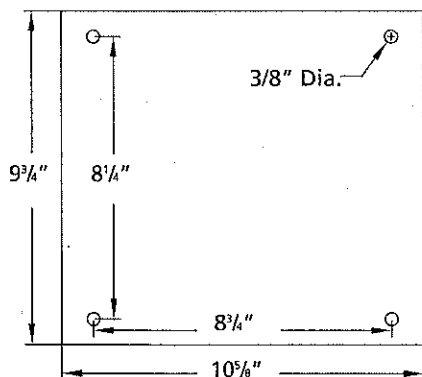

Figure 2 - Base Dimension and Mounting Holes
Refer to Figures 2, 3 and 4.
Refer to Figure 2.
4. Figure 2 shows the base dimensions and mounting holes. See Specifications for required space to allow belt assembly in horizontal position.